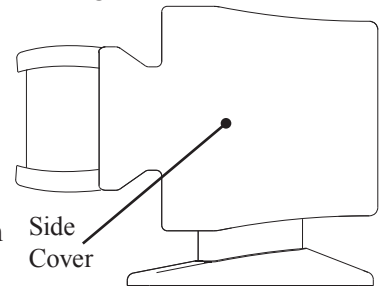

Figure 9
6. While facing a side of the Loudspeaker, remove the side cover by grasping the outside edges of the cover and pulling towards you. In a similar manner, remove the other side cover from the Loudspeaker. Place both covers on to the previously removed protective cloth cover for safe keeping. Refer to figures 9 and 10.